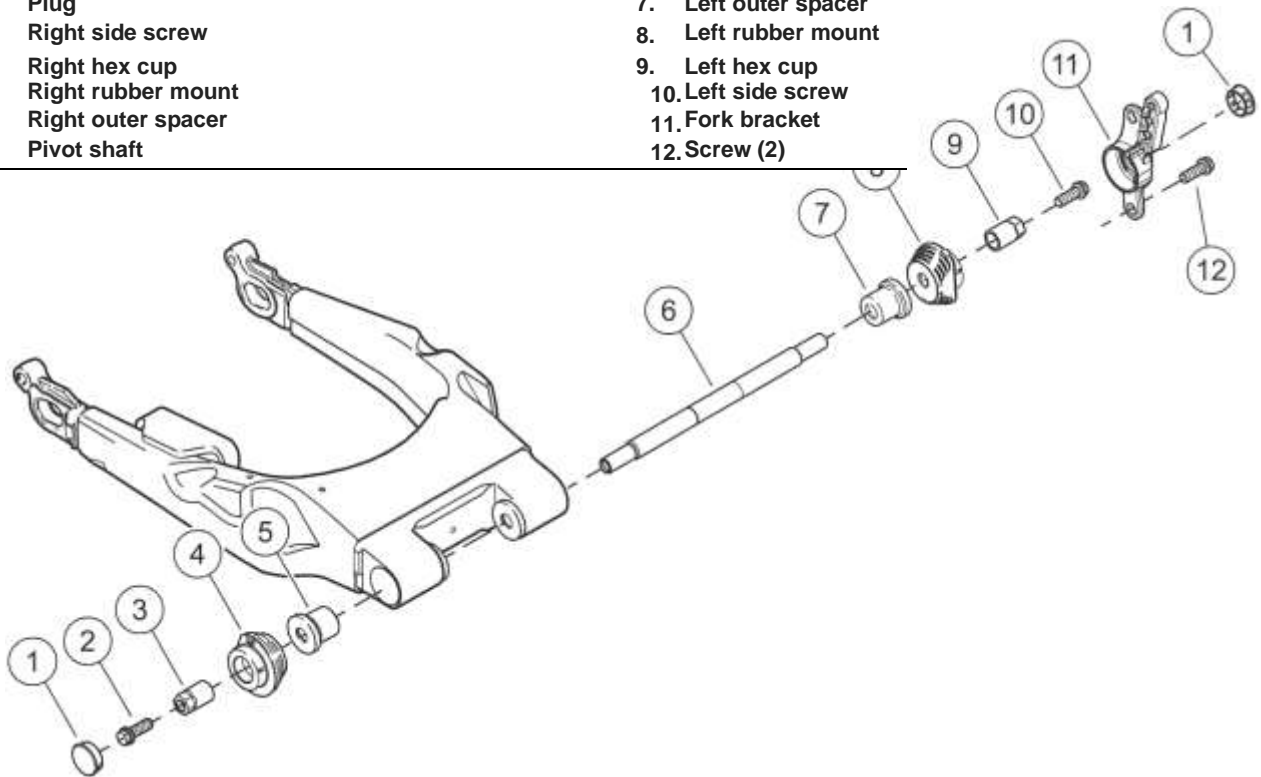

Figure 3-75. Rear Fork Mounting
1. See Figure 3-75. Remove two screws (12) to free left rear fork bracket (11) with footrest attached.
3. Remove plug (1) from right side.
- See Figure 3-75. Install pivot shaft from left side through fork and transmission mount. Guide end of pivot shaft through right rubber mount.
- Install outer spacer (7) until seated against shoulder of pivot shaft.
- Install left rubber mount (8) with the flat side inboard.
- Install hex cup (9).
- Rotate the left rubber mount (8) so the slot is between the 11 and 12 o'clock positions.
- Install left side fork bracket (11) fitting index tab into slot of rubber mount.
- Apply threadlocker to fork bracket screws (12). Secure left side fork bracket with footrest. Tighten.